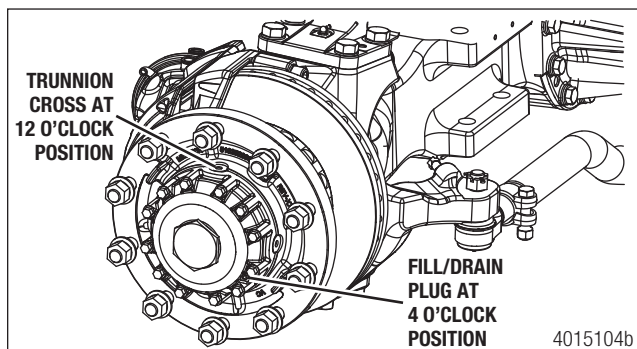

Figure 16.4
- Rotate the wheels so the trunnion cross is at the 12 o'clock position and the oil fill hole is at the 4 o'clock position. Figure 16.4.